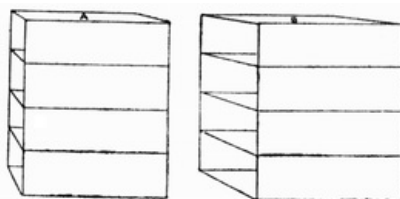
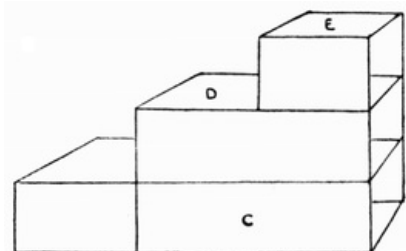

FIG. 103
FIG. 104
**A Railway Bridge.** Gum two sets of four match-box covers together as A and B in Fig. 103. Next, take a half-opened match-box (C in Fig. 104), gum cover securely to box, turn it upside down and to it gum cover D, and to this, half a cover E. Fasten this to A by